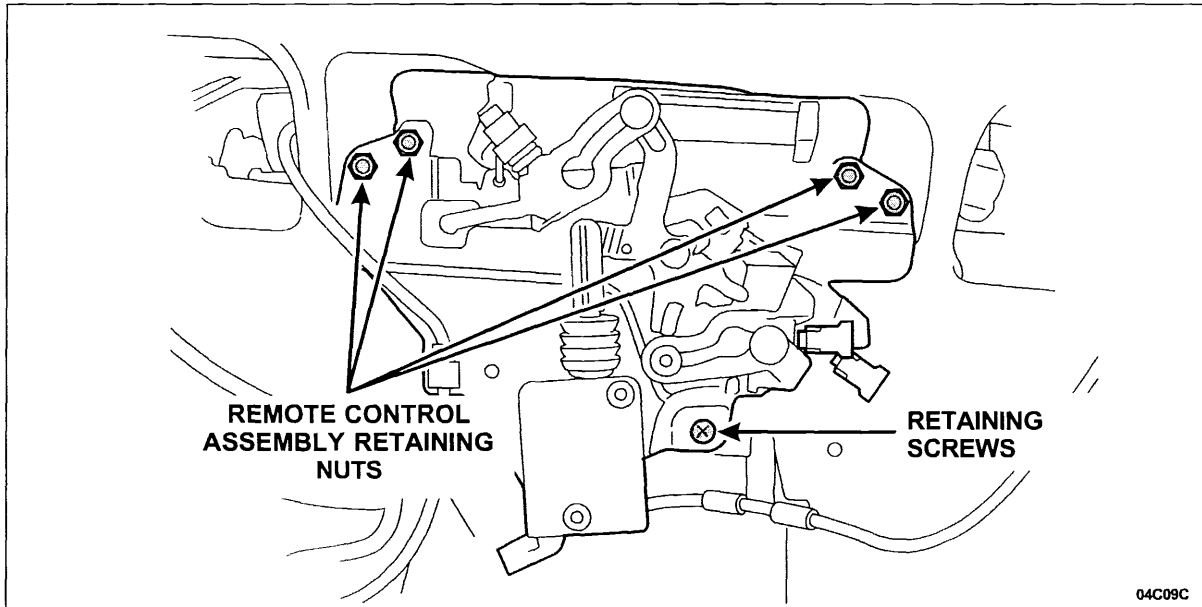

FIGURE 3
6. Remove the liftgate latch remote control assembly retaining screw and all four (4) retaining nuts. See Figure 3.
3. Install all four (4) nuts and the retaining screw. Tighten the nuts to 7 Nm (62 lb-in). See Figure 3.